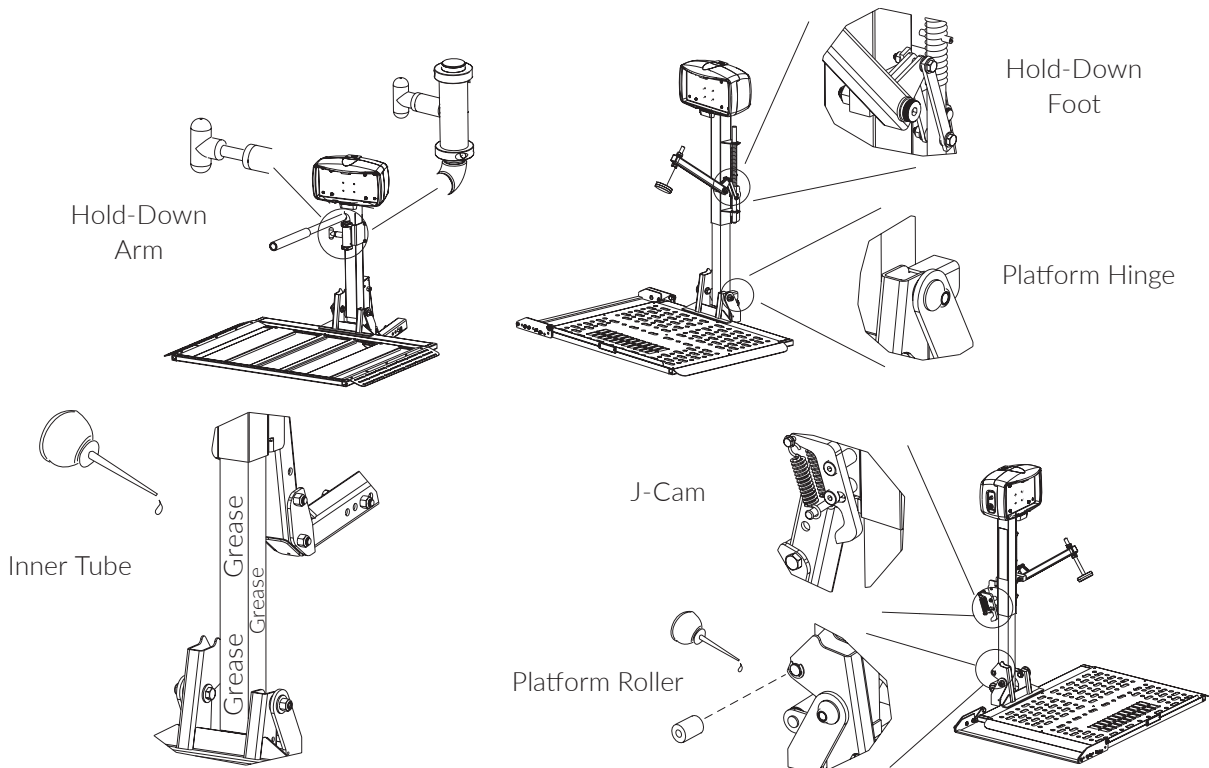

Figure 4-1
- Oil pivot points on all moving parts every Six (6) months.
**See Figure 4-1.**